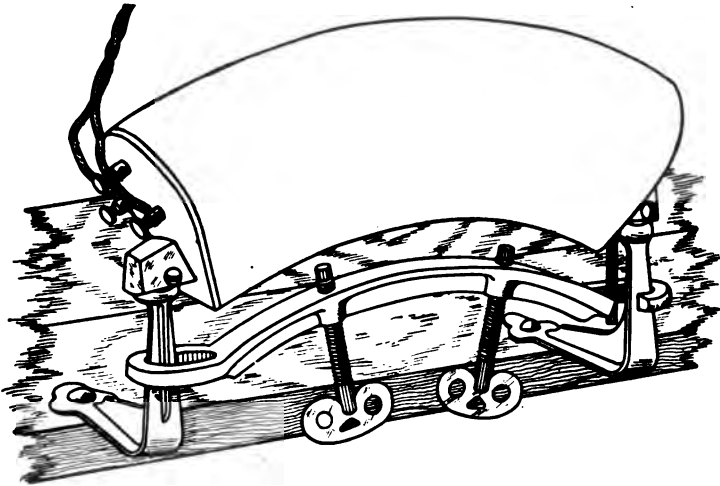

Fig. 111. Shaler Electrically Heated Inside Casing Form
**Inside Casing Forms.** Another requisite of the tire specialist is an inside casing form, such as is shown in Fig. 111, or something